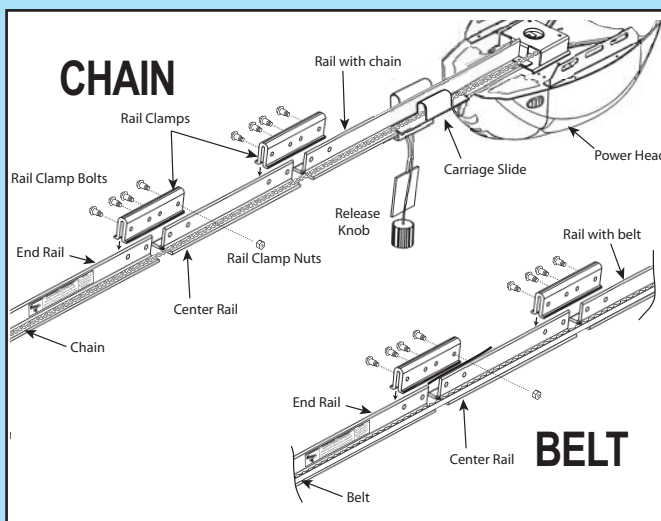

FIG. 1-3 Split Rail assembly.
6. Align the three rail sections by pulling the chain straight and wrapping it around the chain tensioner pulley (Fig. 1-3 & 1-4).
7. Attach the two rail clamps to the rail section joints with (4) bolts and nuts. After both rail clamps have been assembled to the rail sections, securely tighten the bolts and nuts.
5. Align the three rail sections by pulling the belt straight and wrapping it around the tensioner pulley (Fig. 1-3 & 1-4).
6. Attach the two rail clamps to the rail section joints with (4) bolts and nuts. After both rail clamps have been assembled to the rail sections, securely tighten the bolts and nuts.